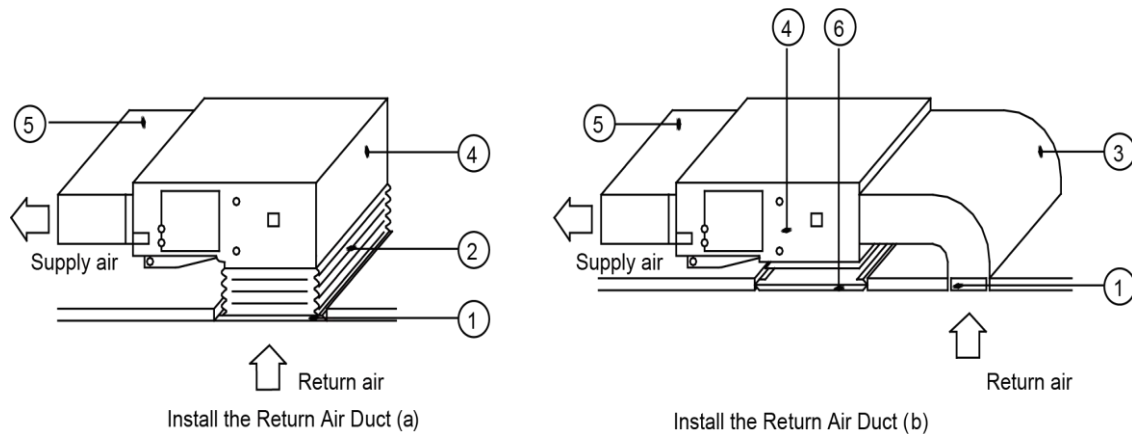

Fig 4.4.6
- (2) If the bottom return air is desired, just change the place of the rectangular flange and the return air cover plate.
- (3) Connect one end of the return air duct to the return air outlet of the unit by rivets and the other to the return air louver. For the sake of the convenience to freely adjust the height, a cutting of canvas duct will be helpful, which can be reinforced and folded by 8# iron wire.
- (4) More noise is likely to be produced in the bottom return air mode than the rear return air mode, so it is suggestive to install a silencer and a static pressure box to minimize the noise.
- (5) The installation method can be chosen with considering the conditions of the building and maintenance etc., as shown in Fig 4.4.6.